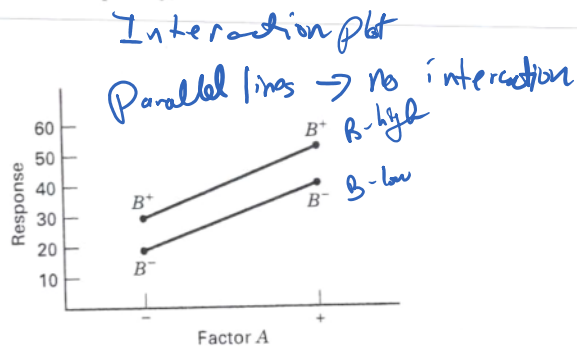

Figure 5-3 A factorial experiment without
- Study Figures 5-3 and 5-4 on page 181 to understand interactions